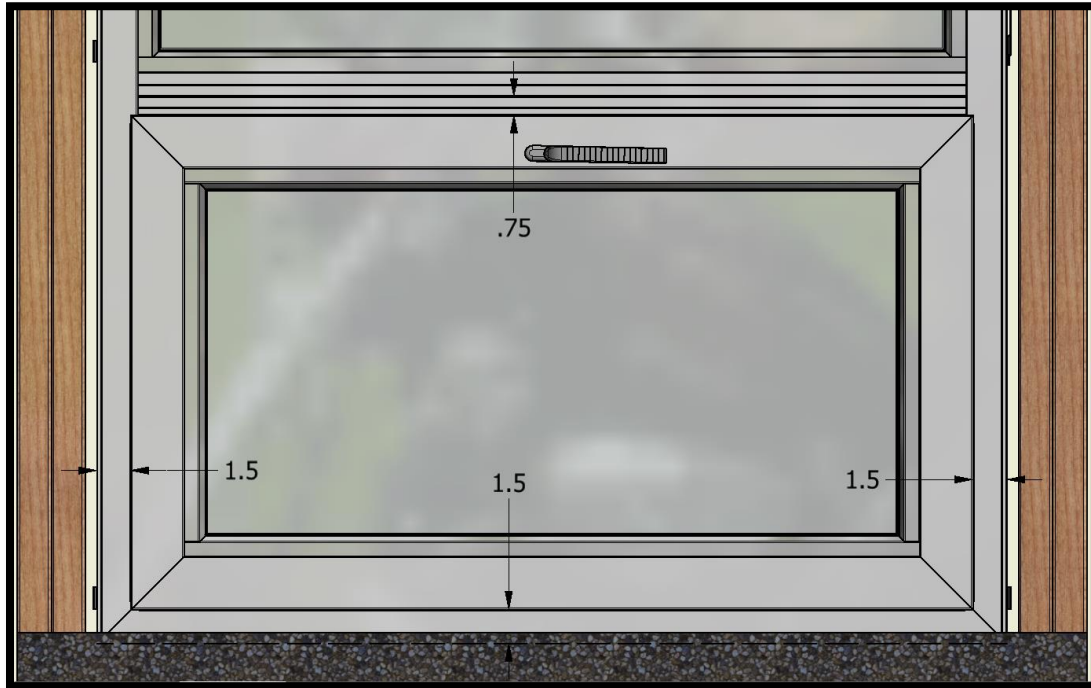

Figure 15: Sash Reveal
- A)  Verify the sash reveal is consistent on the operable panel to the frame. (See Figure 15)